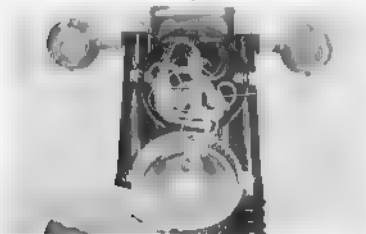

Fig. 4.5. Disconnecting electrical leads
CT 90 (Fig. 4.5)	Up-handle
4. Remove the horn, turn signal and dimmer switch head 1 by loosening the screws at the front of the headlight case and disconnecting the connectors within the headlight case (Fig. 4.5)